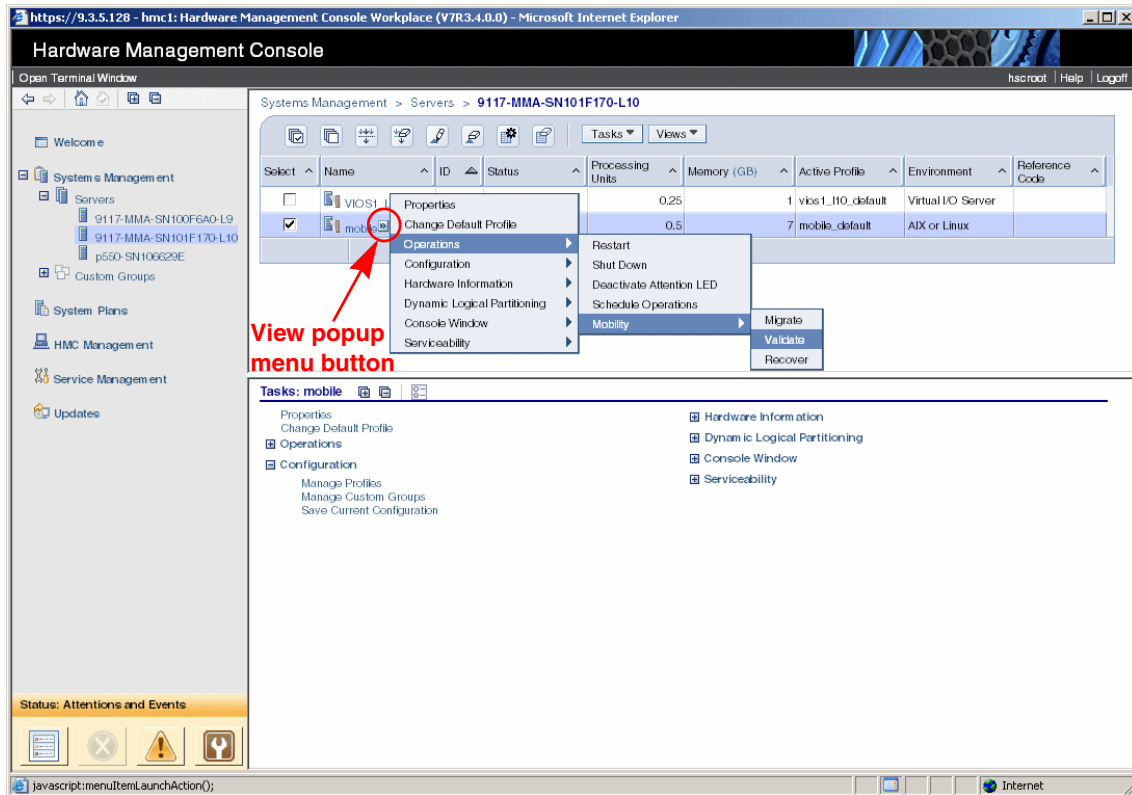

Figure 14-2 Partition mobility validate menu on the HMC
3. Click the **View popup menu icon** and select **Operations** → **Mobility** → **Validate**, as shown in Figure 14-2, to start the validation process.